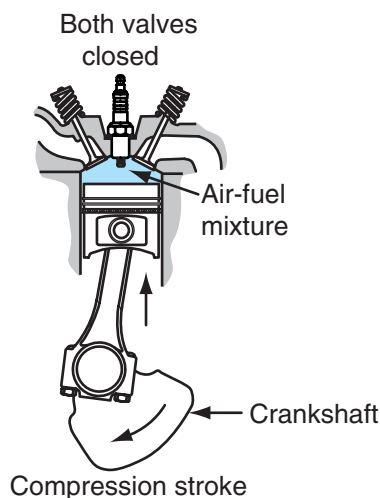
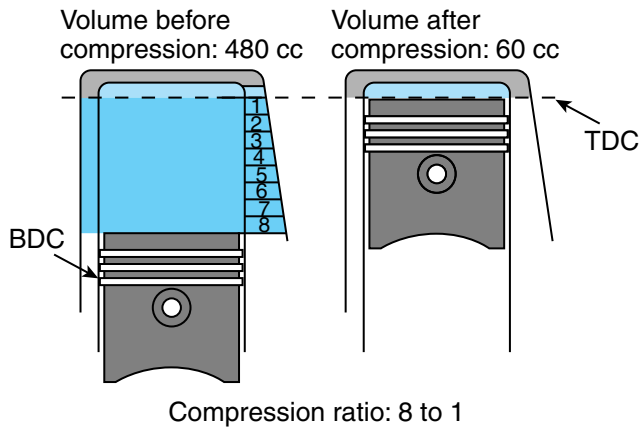

FIGURE 1.7 The air-fuel mixture is compressed.
FIGURE 1.8 Compression ratio is a comparison of the volume of the air space above the piston at BDC and at TDC. In this example the compression ratio is 8:1.
- **Compression Stroke.** The piston moves up in the cylinder, compressing the air-fuel mixture (**Figure 1.7**). If you light a puddle of gasoline on fire in open air it does not produce power. If it is confined in a cylinder, however, usable power can be produced. Compressing the mixture of air and fuel into a smaller area makes it easier to burn. The compression stroke begins at BDC after the intake stroke is completed. As the piston moves toward TDC, both of the valves are closed as the mixture is compressed to about $\frac{1}{8}$ of the volume it occupied when the piston was at BDC. In this case, the **compression ratio** is said to be 8:1 (**Figure 1.8**). If the mixture is